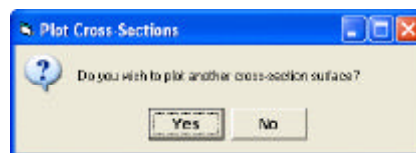

Figure 12
- In the case where only one cross-section data table is to be processed. From Figure 12, click at the: